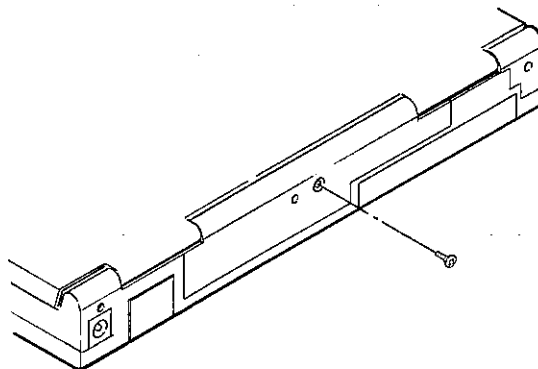

Fig. 2-4
- 6) Remove the screw at the back. (Fig. 2-4)